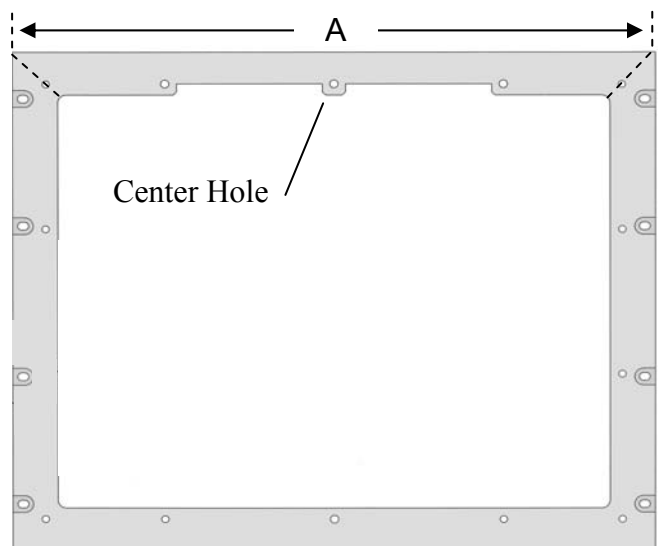

Figure 2: Gasket Installation
1. On a flat surface, orientate the mounting plate as depicted in Figure 2.